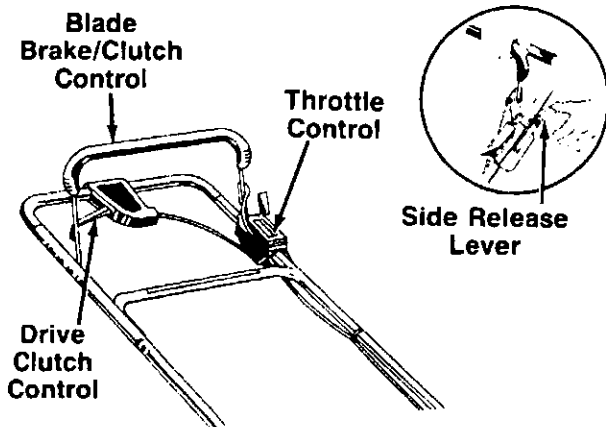

FIGURE 13.
The throttle is located on the left side of handle. It controls engine speed. See figure 13.
Squeezing the drive clutch control engages the drive mechanism to the rear wheels. Releasing the clutch control stops the rear wheels from driving. Release the drive clutch control to slow down when negotiating an obstacle, making a turn or stopping. See figure 13.
To engage the blade, pull the side release lever away from the unit. See figure 13. Pull the blade brake/clutch control handle against the upper handle. Release side lever.
2. To engage the blade, pull the side release lever away from the unit. Pull the blade brake/clutch control handle down against the upper handle. Release the side lever. See figure 13.